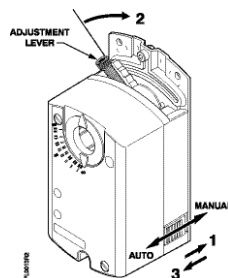

Figure 10. Manual Override.
2. If the blades will rotate counterclockwise, slide the manual override switch to manual, and move the adjustment lever to the right. Return the switch to automatic. See Figure 10.